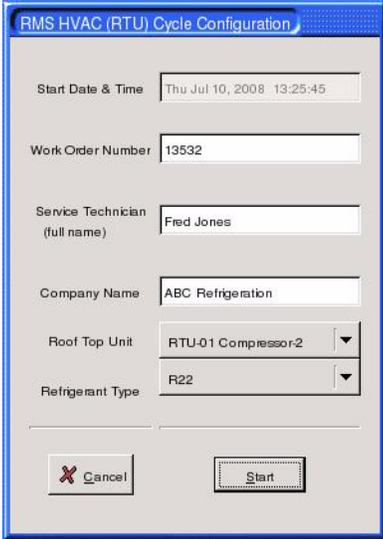

Figure 4-7 RMS HVAC (RTU) Cycle Configuration
1. Click the "HVAC" button on the Main Menu. The RMS RTU Operation screen will be shown (**Figure 4-7**).
The RMS RTU Operation screen (**Figure 4-7**) allows you to perform one of three functions: adding an amount of refrigerant, removing an amount of refrigerant, and updating the recorded initial charge of the RTU stage.